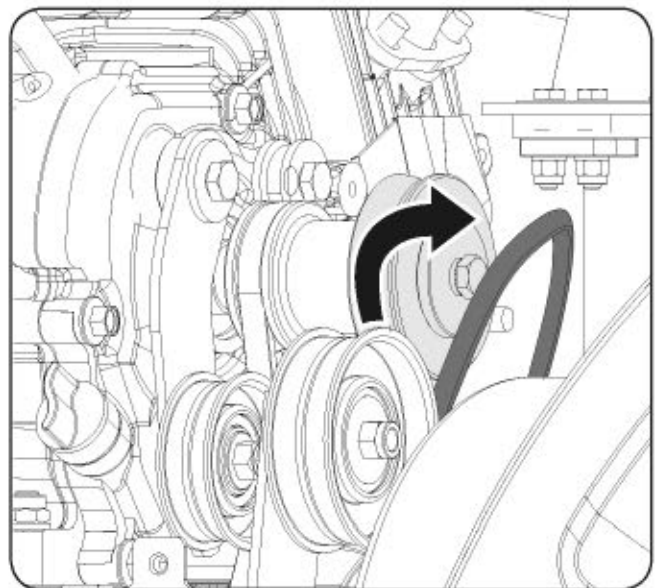

Figure 20b
3. Roll the auger belt(s) off the engine pulley. (See **Figure 20b**)
- Roll the auger belt off the engine pulley. (See **Figure 20b**)